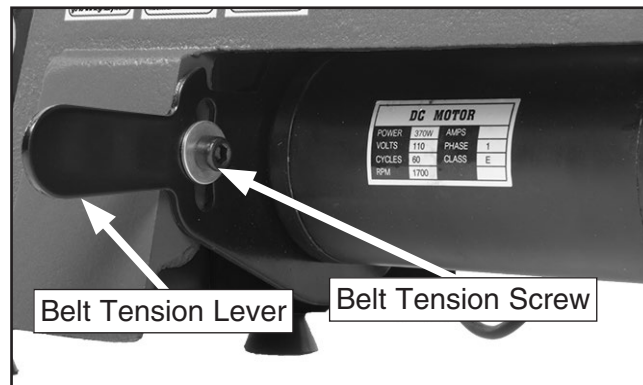

Figure 17. Belt tension lever.
2. Loosen belt tension screw (see **Figure 17**). Be sure belt tension lever moves freely to release tension from belt.